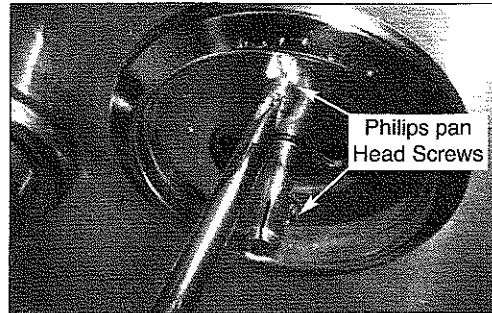

Fig 11
13. Loosen the two (2) philips pan head screws on the bezel (one small bezel and five large bezels). (See Fig. 11)